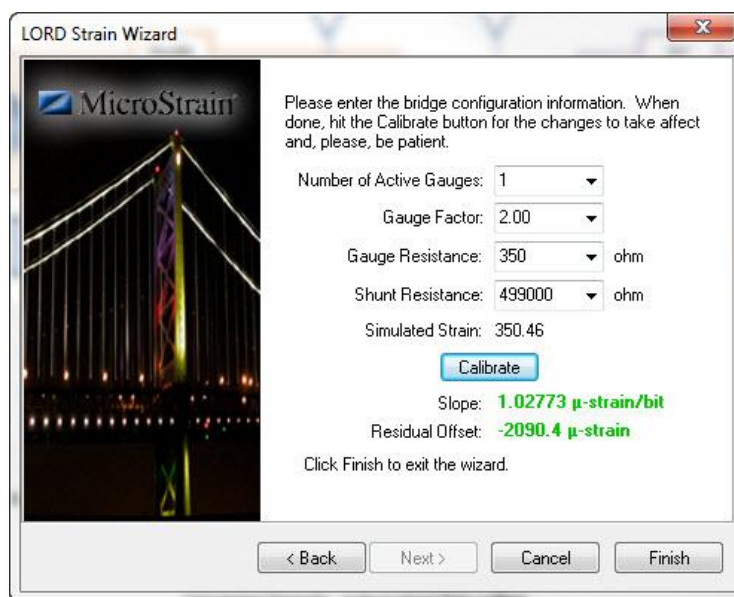

Figure 4: Slope and Residual Offset
- Click Accept to move to the next view as exemplified in Figure 4.